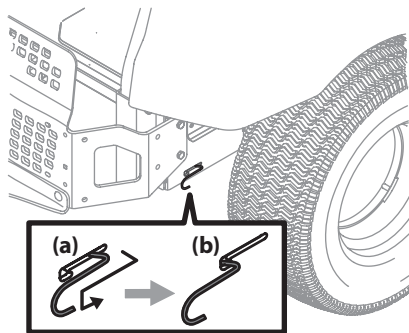

Figure 24
- From the rear of the mower, just inside the two rear tires, locate the transmission bypass rods. Refer to Figure 24.
- Engage the transmission bypass rods, one on each side of the mower, to move the mower manually without starting it. Engage the bypass rods by pulling each one back (a) and hooking it into the slot (b) to lock it into place. See Figure 24.
- Disengage the bypass rods by reversing Steps (a) and (b) after moving the mower. See Figure 24.